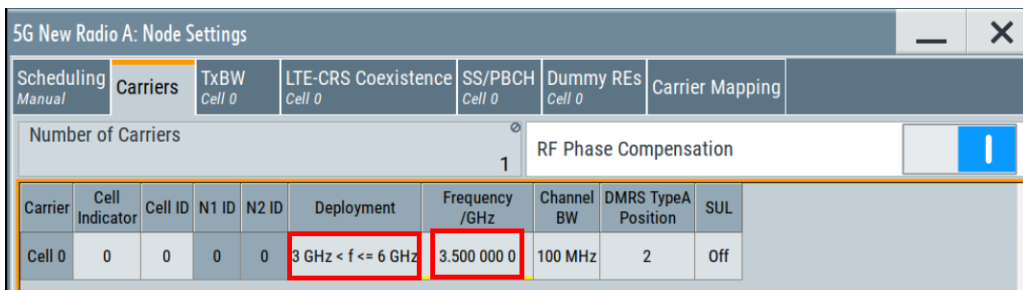

Fig. 7-7 5G NR node settings
b) In Node Settings, see Fig. 7-7